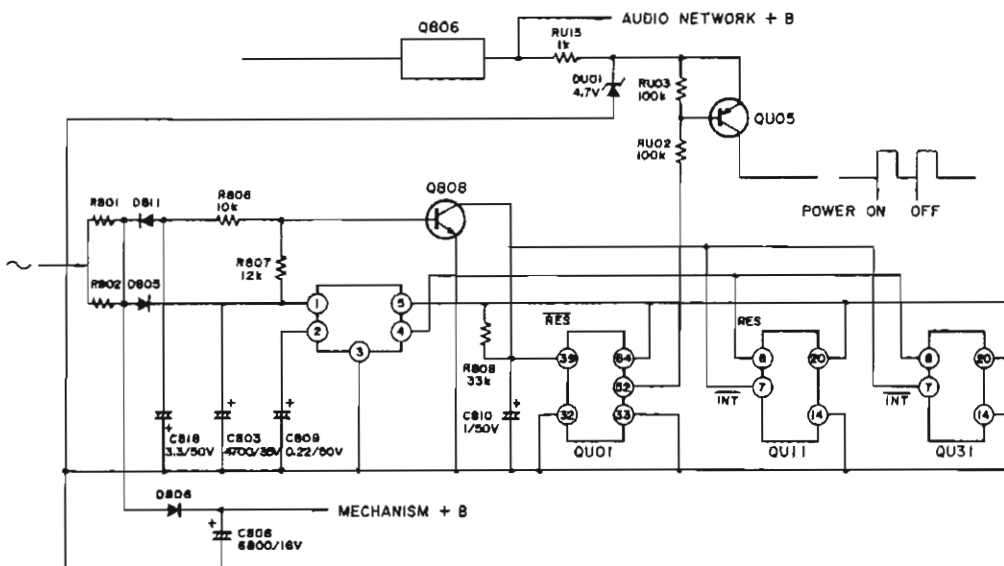
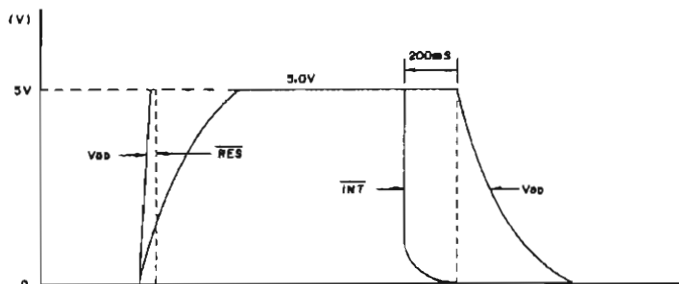

Figure 4
Figure 5
Figure 5 shows the leading and trailing characteristics of each VDD, INT and RES pin of the feature control microprocessor (QU01), mechanism control microprocessor (QU11, QU31), and figure 4 shows its diagram. Each timing is important for the normal function the microprocessors.
- a) Check the waveform of QU11 pin ⑥.
- b) Check the rising characteristics of VDD, $\overline{\text{INT}}$ and $\overline{\text{RES}}$. When they go high with the rising characteristics shown in Fig. 5, they are normal.